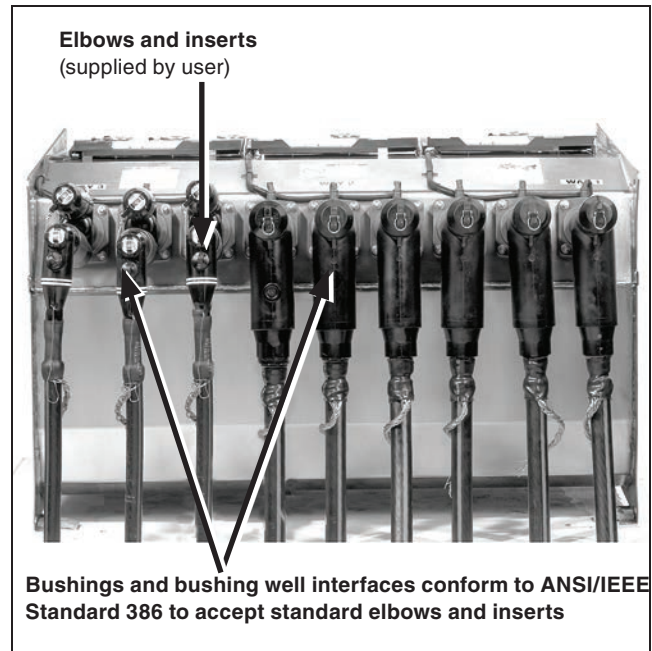

Figure 9. A Vista switchgear tank shown with user-supplied cables and elbows. (Manual unit shown for illustration purposes.)
STEP 2. Terminate the cables with elbows following the elbow manufacturer's instructions. See Figure 9.